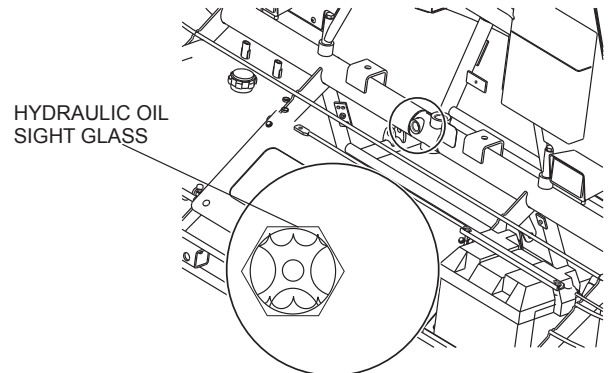

Figure 10. Hydraulic Oil Sight Glass
1. Check the hydraulic oil condition through the sight glass (Figure 10). Replace hydraulic oil if dirty or if bubbles are present.